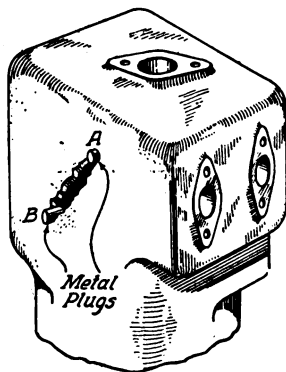

Fig. 34. Method of Plugging Small Crack in Water Jacket
**Repairing Cracked Water Jackets.** Very often the first cold spell of fall will catch the owner napping in the matter of heat for his motor, and will freeze up the water, which finds a weak spot in the water jacket and cracks it. When the crack is small and localized, it can be repaired very simply as follows: Drill each end of the crack as shown at *A* and *B*, Fig. 34, and screw in small  $\frac{1}{8}$ -inch brass plugs to prevent the crack from spreading. Then cut back the outer sides of the crack with a small cold chisel to permit inserting a considerable amount of rusting compound, being careful not to cut away any quantity of good metal. Then fill the crack up very fully and carefully with the compound consisting of two parts iron filings and one part sal-ammoniac. Just enough water should be added to this to make a paste which can be handled better than the dust or powder. After inserting, let the cylinder stand for a day or two, and if it does not seal up quickly and entirely, add a little water. If this does not complete the job, it may be necessary to go over it again, adding more of the rusting compound. After a couple of tries, almost any skillful repair man will get the hang of this job, and be able to seal a water jacket crack perfectly every time.